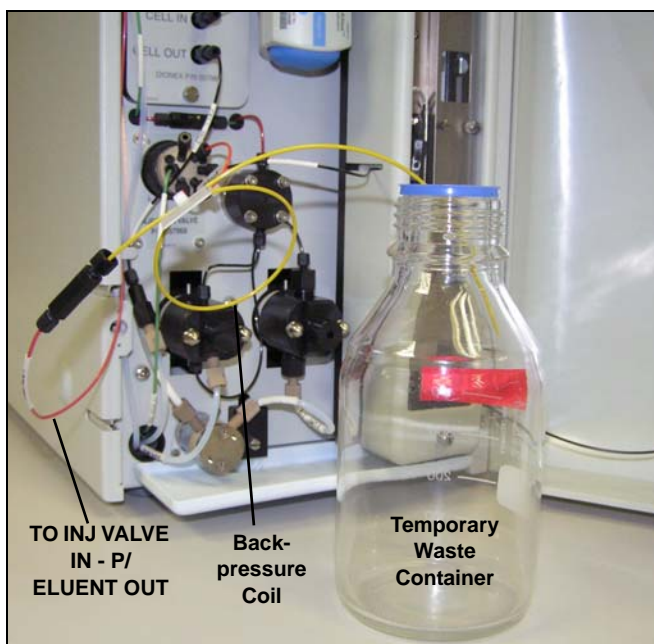

Figure 89. Plumbing Connections for Conditioning the EluGen Cartridge with Carbonate Eluent
10. Disconnect the **TO INJ VALVE IN - P/ELUENT OUT** line from port **P (2)** on the injection valve.
11. Use a 10-32 to 10-32 coupler (P/N 042627) to connect the **TO INJ VALVE IN - P/ELUENT OUT** line to one end of the yellow 0.5 mL/min, 7 MPa (1000 psi) backpressure coil (P/N 053765) (see Figure 89).